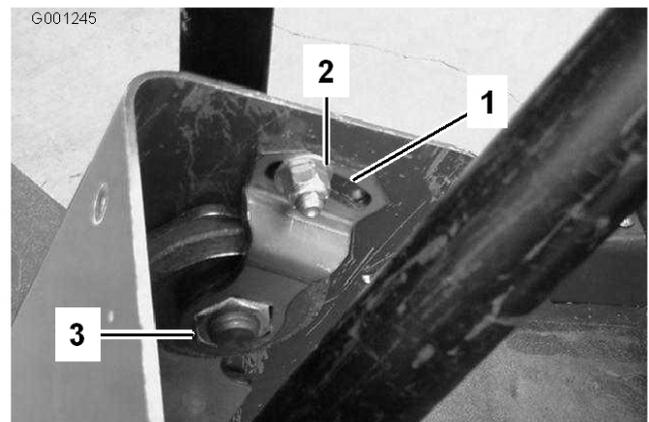

Figure 70
2. Slide the cover up the steering shaft to expose the pivot bracket (Figure 70).
3. Loosen the small nut, rotate the pivot bracket until it tightens the large nut below (Figure 70).